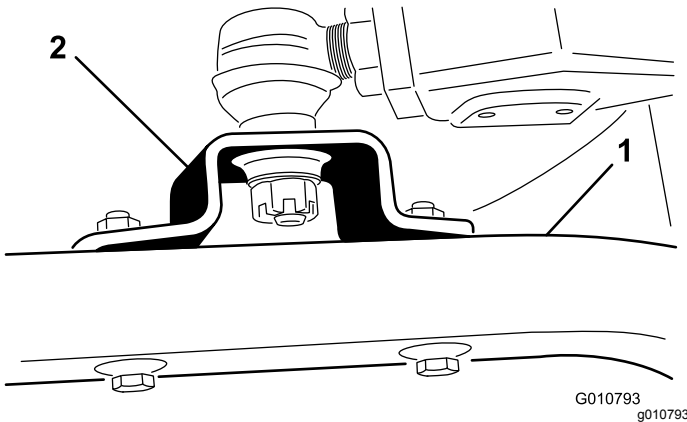

Figure 19
3. Remove the capscrews and locknuts securing the ball joint mounts to the castor arms on the cutting unit (Figure 19).